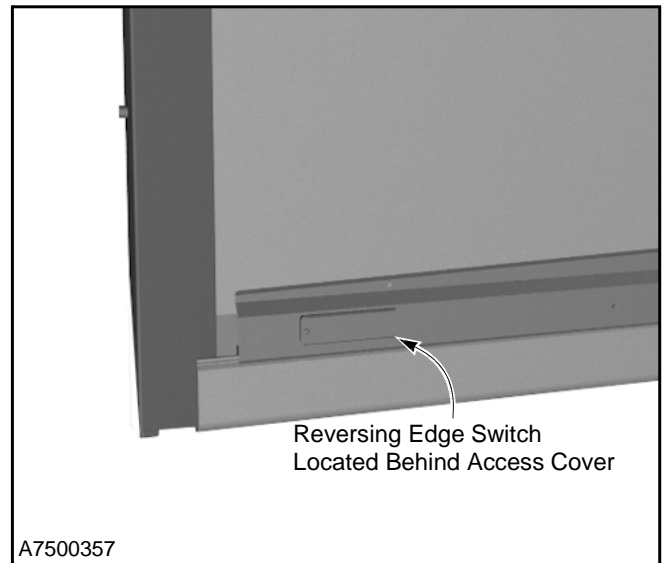

Figure 61
2. The reversing edge switch is located inside the bottom bar assembly. To inspect or adjust the switch, remove the access cover from the face of the bottom bar assembly. (See Figure 61.)